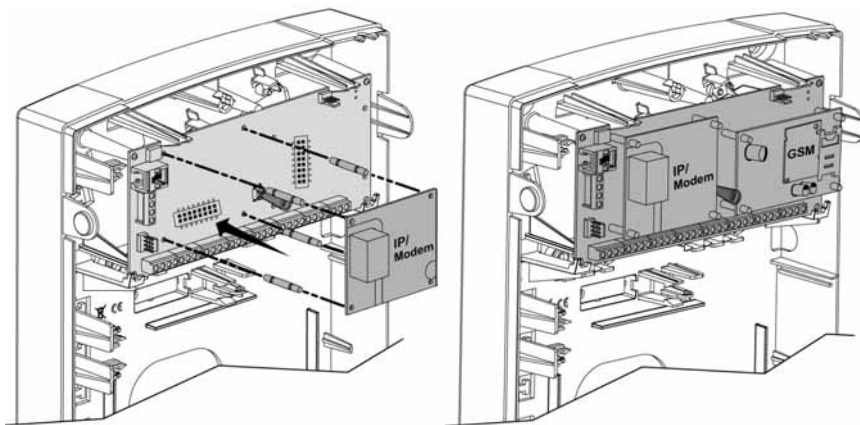

Figure 2-11 Placing the IP modem
1. Place the optional IP communication modem (mounted on its cylindrical placement struts) as illustrated in Figure 2-11